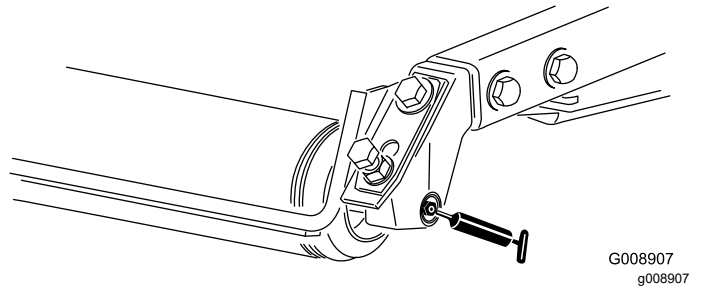

Figure 78
- Rear-roller bearings (2 per cutting unit)—Figure 78